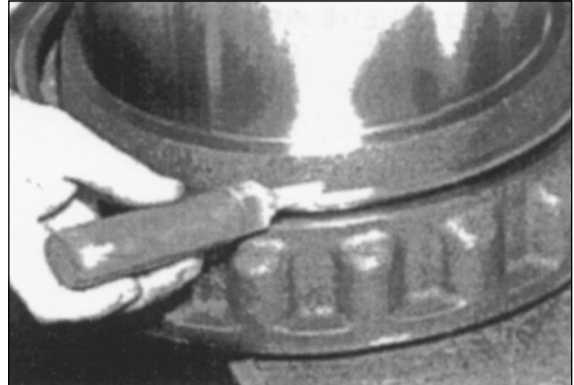

Figure 96
5. Apply lubricant to seal surface. Figure 96.